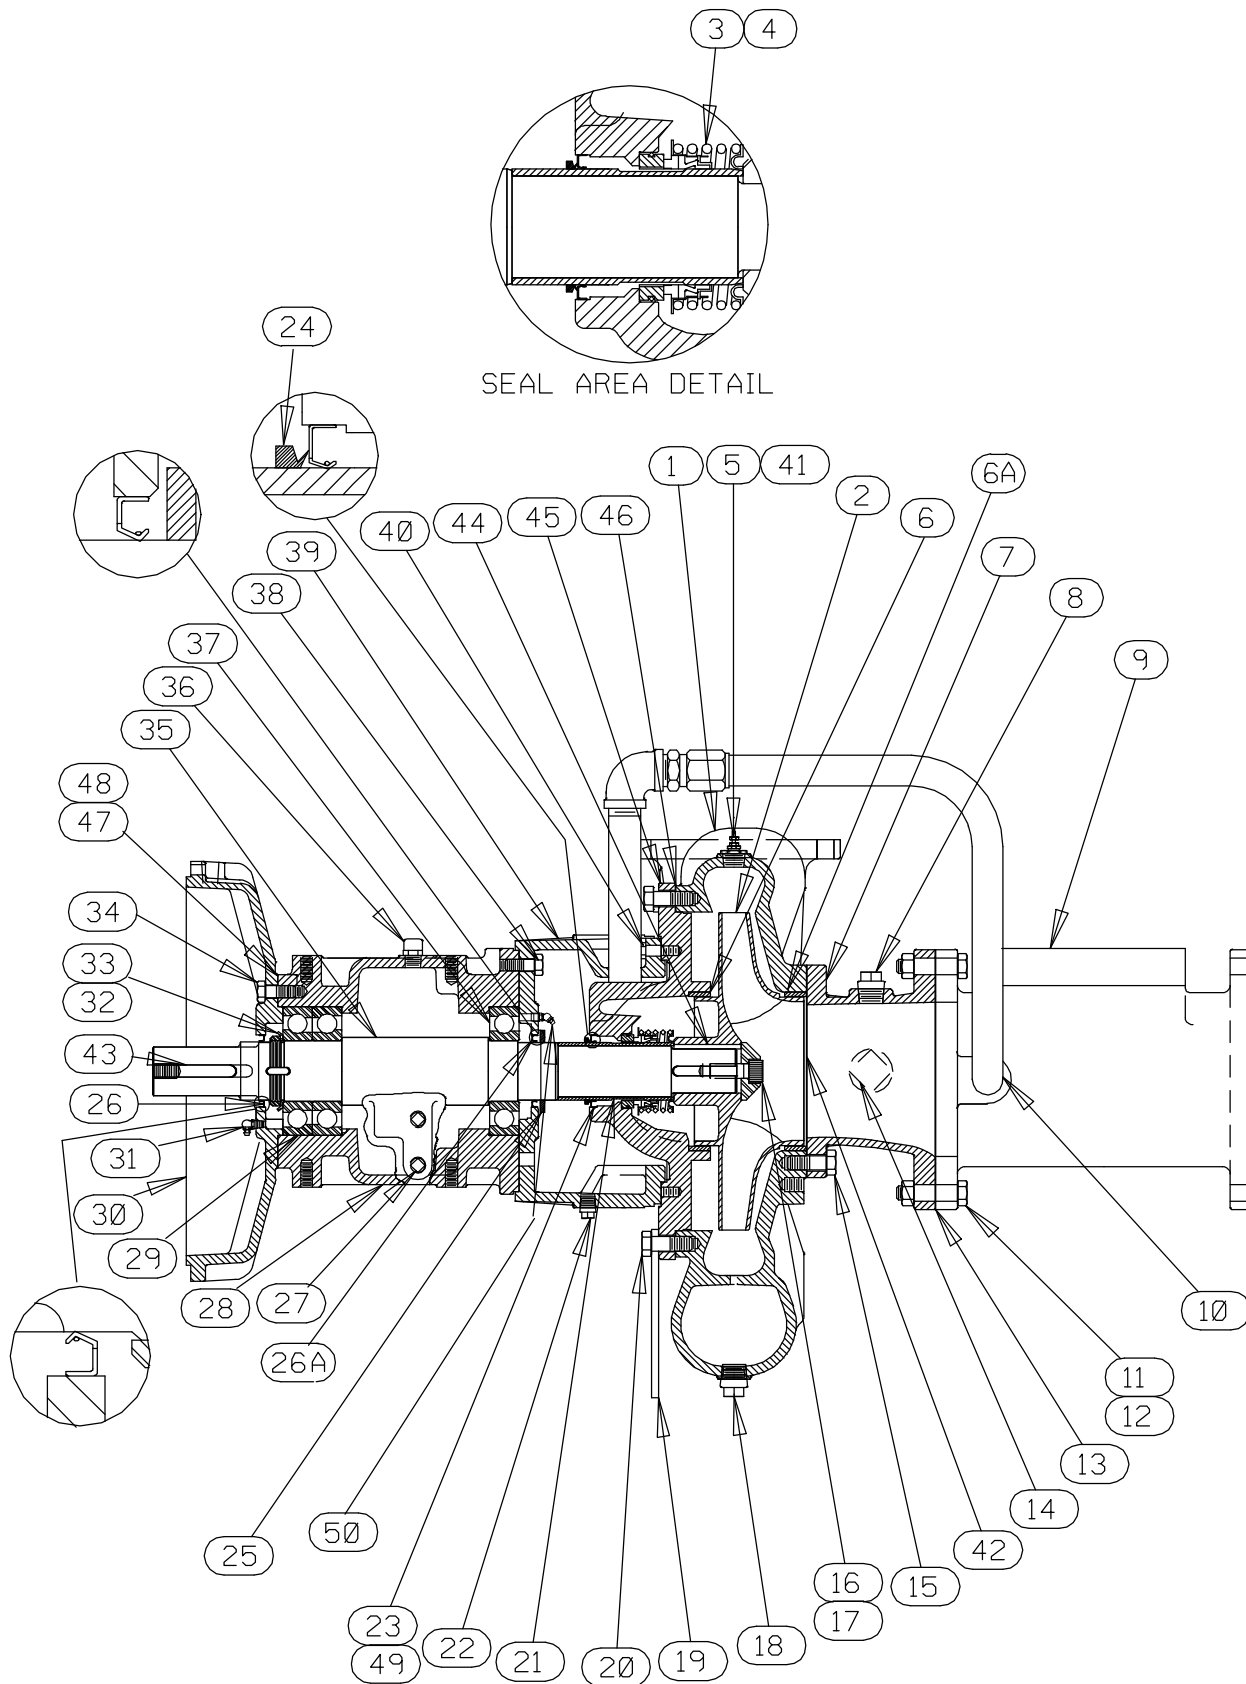

Figure 4. Pump Assembly
Disconnect the air discharge tubing from the priming chamber assembly (1). Support the priming chamber assembly using a sling and a suitable lifting device. Remove the hardware (6 and 7) and separate the priming chamber assembly, gasket (8) and baffle (9) from the spool (9, Figure 4).